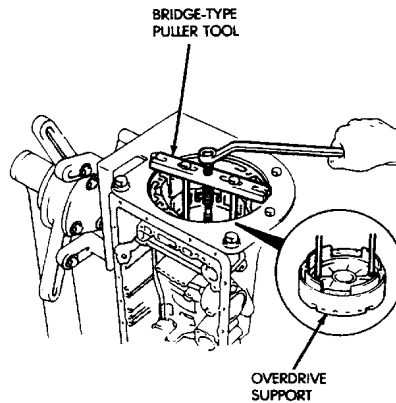

Fig. 26 Removing Overdrive Support
(34) Remove overdrive support (Fig. 26) with bridge-type puller tool B.Vi. FM. 25.